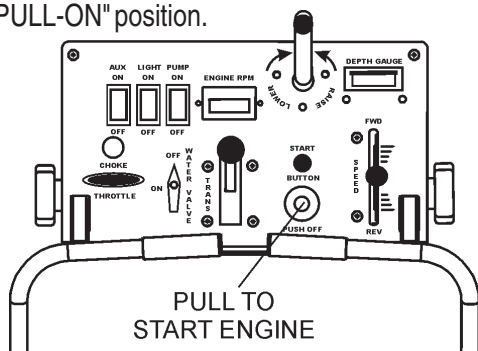

Figure 21. Console Engine ON/Off Switch
5. **PULL** the Console **Engine ON/OFF switch** (Figure 21) to the "PULL-ON" position.
- Push the console engine ON/OFF switch (Figure 21) to the "OFF" position.